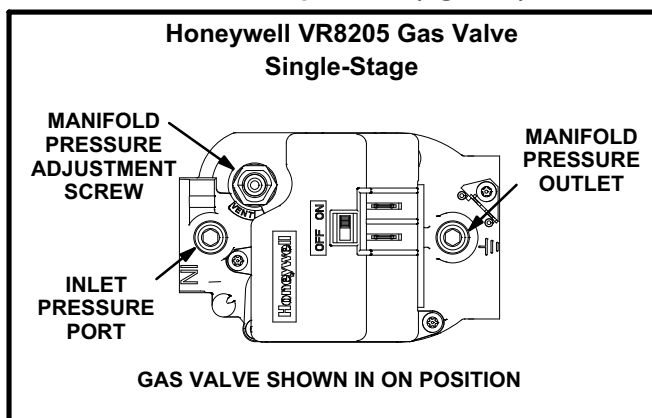

FIGURE 9
Gas Valve Operation (figure 9)
- 3- Slide the gas valve switch to the "ON" position (see Figure 9).
- 2- Slide the gas valve switch to the "OFF" position (see Figure 9).